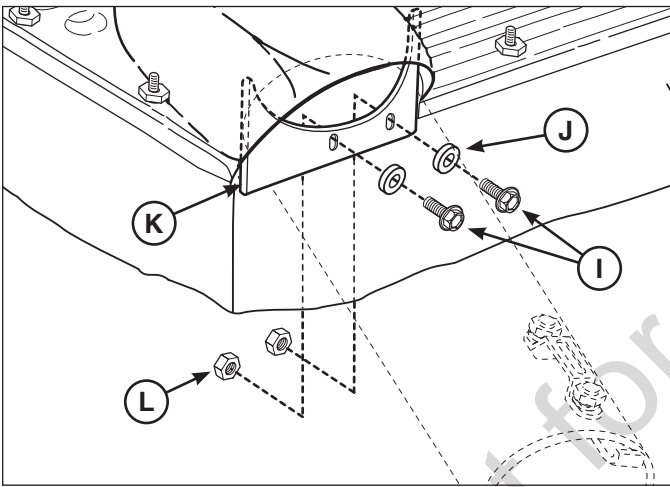

Figure 16
5. Insert the two 1/4 x 1-1/2 bolts (I, Figure 16) through the 1/4" flat washers (J), debris shield (K), dust skirt, and catcher frame.